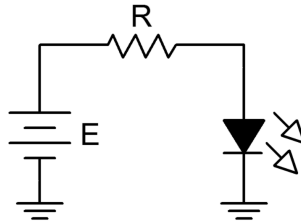
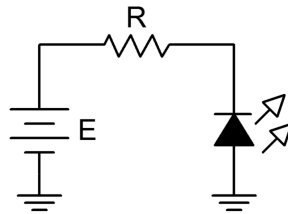

Figure 1
Figure 2
1. Consider the circuit of Figure 1 using $R = 1\text{ k}\Omega$. For any positive value of E , the diode should be forward biased. Once E exceeds the knee voltage, the difference between the source and the knee drops across R . Thus, as E increases, so does the LED current and hence its brightness.
2. Build the circuit of Figure 1 using $R = 1\text{ k}\Omega$ and the red LED. Set E to 0 volts and measure both the LED voltage and current and record the results in Table 1. Note the relative brightness level. Repeat this process for the remaining source voltages listed.
6. Replace the LED of Figure 1 with the high brightness white LED. Set the supply to 12 volts. Record the LED voltage, current and brightness in Table 4.
7. Consider the circuit of Figure 2 using $R = 1\text{ k}\Omega$. For any positive value of E , the LED should be reversed biased. In this case, the LED should always be open causing no current to flow. If no current flows, the LED produces no light. Also, the voltage across R should be zero, and thus the LED voltage should be equal to the applied source voltage. Note that the LED voltage polarity is negative with respect to that of Figure 1.
8. Build the circuit of Figure 2 using $R = 1\text{ k}\Omega$ using the red LED. Set E to 0 volts and measure both the LED voltage and current and record the results in Table 5. Repeat this process for the remaining source voltages listed.